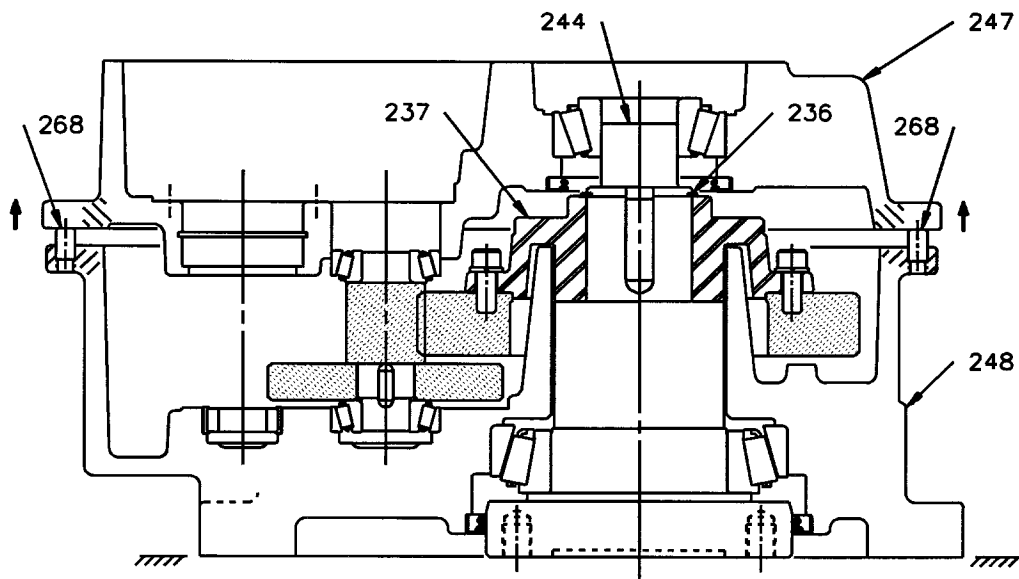

Figure 1: Removal of Gear Drive Lid [247]
8. Tighten set screws [268] to break the seal between the gear drive lid [247] and housing [248]. (See Figure 1). Remove the set screws and install four jacking set screws (supplied by others).